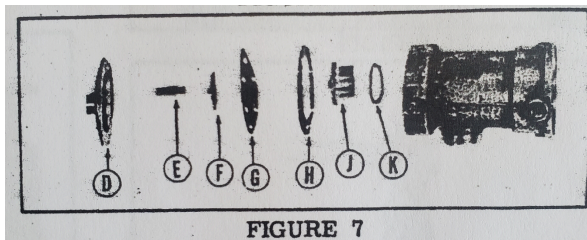

FIGURE 7
2. Remove pressure regulator spring (E, Figure 7), regulator button (F, Figure 7), diaphragm (G, Figure 7), and gasket (H, Figure 7).
3. With 1-1/8" wrench remove the regulator valve assembly by turning counter-clockwise (J, Figure 7).
4. Remove gasket between valve and pump body (K, Figure 7).
2. Check for broken or distorted regulator spring (E, Figure 7). The normal length is  $\frac{7}{8}$ ".
3. Install gasket (K, Figure 7), diaphragm (G, Figure 7), button (F, Figure 7), and regulator spring (E, Figure 7). Make sure the spring is perpendicular and can move freely in the adjustment screw before tightening pressure cover with six screws at top of pump.